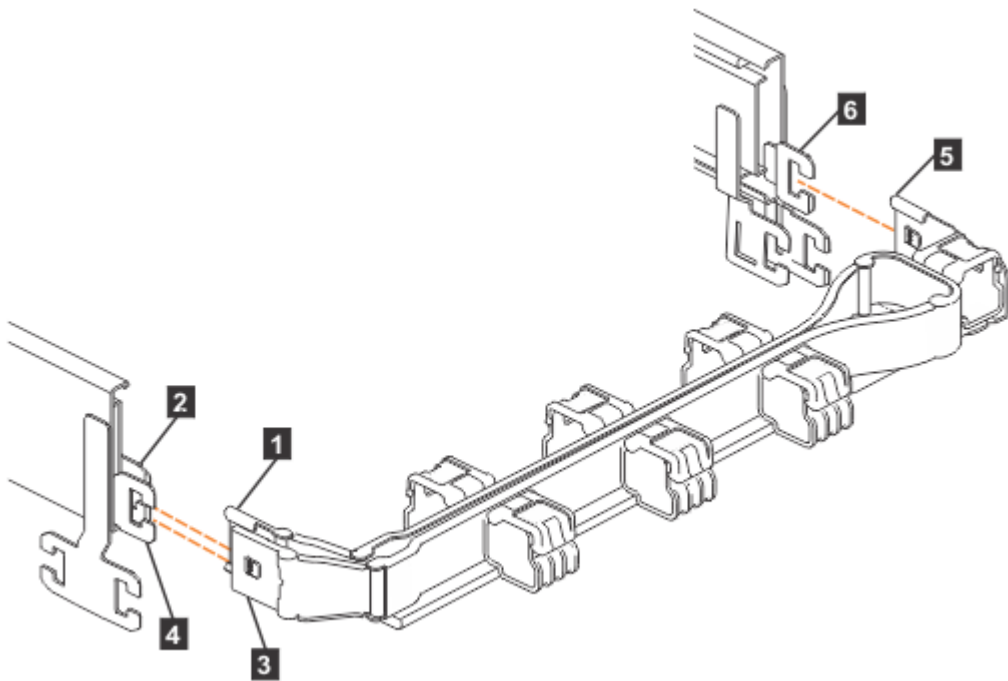
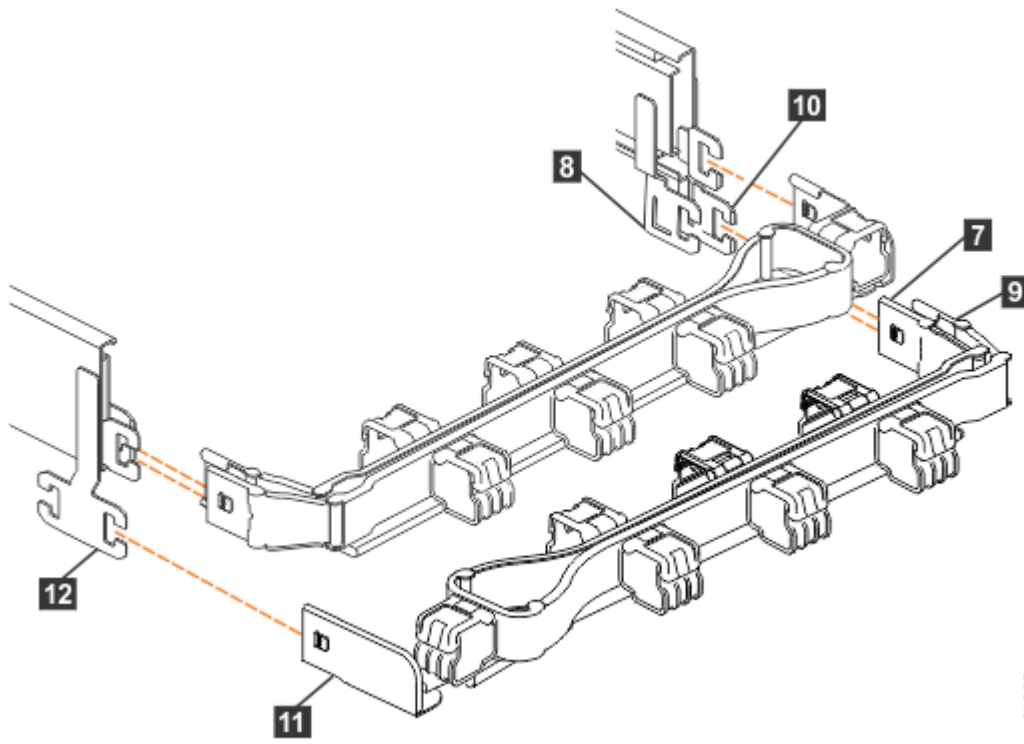

Figure 121. Connectors for the upper cable management arm
Figure 122. Components of the lower CMA assembly
The connectors of the CMA are installed on the rail hooks at the end of the support rails. Figure 121 on page 173 shows the connectors on the upper CMA assembly.
1. Press the latch on the connector base on the upper CMA assembly (**5** in Figure 121 on page 173).
2. Pull the connector to remove it from the connector base on the right support rail (**6** in Figure 121 on page 173).
3. Press the latch on the outer connector of the upper CMA assembly (**3** in Figure 121 on page 173).
4. Remove the outer connector from the inner member of the left support rail (**4** in Figure 121 on page 173).
5. Remove the inner connector of the upper CMA assembly (**1**) from the inner member of the left support rail (**2**), as shown in Figure 121 on page 173.
Note: The procedure for removing the lower CMA assembly is the same as the procedure to remove the upper CMA assembly. However, the connector locations are reversed. For example, the connector base of the upper CMA (**5** in Figure 121 on page 173) connects to the right rail. The connector base of the lower CMA (**11** in Figure 122 on page 174) attaches to the left rail.
6. Remove the connector base on the lower CMA assembly (**11**) from the connector on the left support rail (**12**), as Figure 122 on page 174.
7. Remove the inner connector of the lower CMA assembly (**9**) from the outer member of the right support rail (**10**), as shown in Figure 122 on page 174.
8. Remove the outer connector of the lower CMA assembly (**7**) from the inner member of the right support rail (**8**), as shown in Figure 122 on page 174.